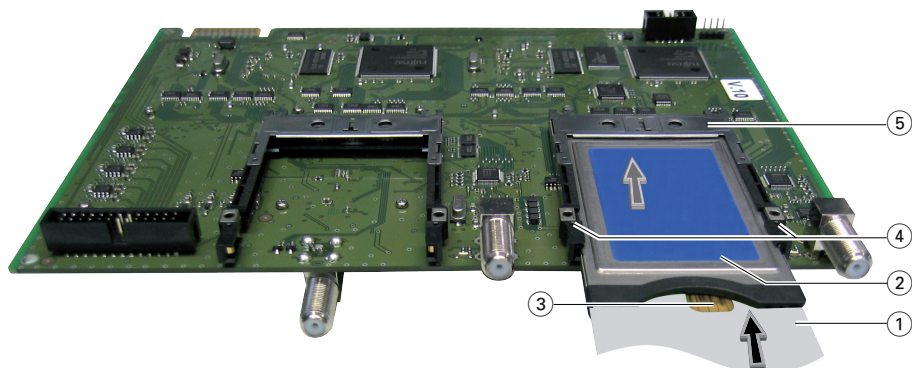

Fig.1
- Insert the smart card ① into the CA module ② so that the chip ③ on the smart card faces the thicker side (top) of the CA module (fig. 1).
- Push the CA module ② without canting into the guide rails ④ of the common interface slot ⑤ according to the following picture and contact it to the common interface.